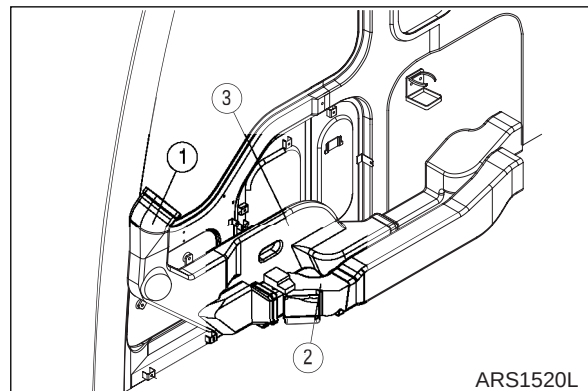

Figure 12
14. Install air duct (3, 2 and 1, Figure 12) located at right side of cab.
15. Install side panel (6, Figure 12) and pocket (5).